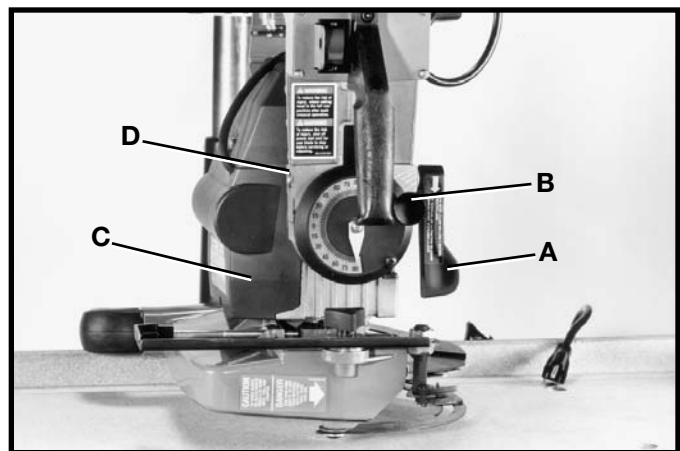

Fig. 69
2. Loosen bevel clamp handle (A), release bevel index release knob (B), and turn motor (C) to vertical position as shown in Fig. 69. **NOTE: IF BLADE GUARD CONTACTS TABLE SURFACE, RAISE TRACK ARM.**
3. Loosen bevel clamp handle (A) Fig. 69, several turns, until hex head of screw (D) can be pushed out of hex-shaped recess in yoke.
4. Turn screw (D) Fig. 69, in the desired direction which the handle needs to be turned, one or two flats of the hex head and push it back into hex-shaped recess in yoke.
5. Tighten bevel clamp handle (A) Fig. 69. **NOTE: Screw is left hand thread - turn clamp handle counterclockwise to tighten.**